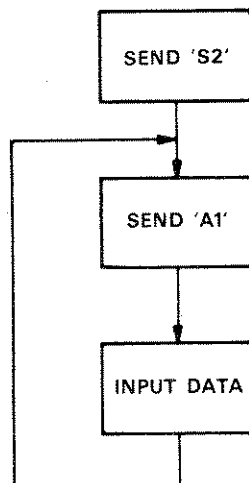

Figure 4-5. Flowchart for Programming SMOOTHING MAX (S2) and Continuous Data Readout on Channel A
3. Program controller (1) for maximum smoothing, and (2) to take data continuously from Channel A. See flowchart in Figure 4-5. A computer program that implements this flowchart is provided in Figure 4-6; this program is written in HPL for use with the HP 9825A Programmable Calculator.